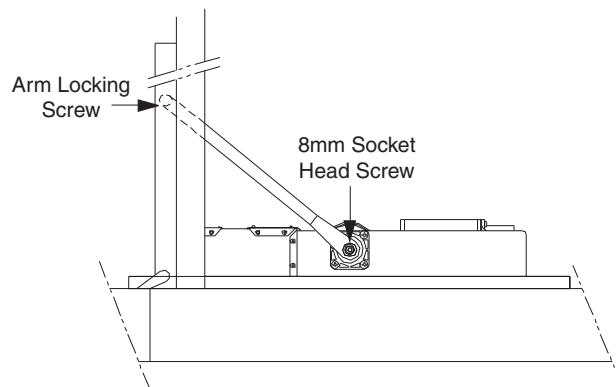

Fig. 3
4.5.2 Attach the Pull Arm to the track roller with the roller locking screw and to the operator spindle loosely with the 8mm socket head screw. Open the door to 90°, and tighten the 8mm socket head screw (see fig. 3).